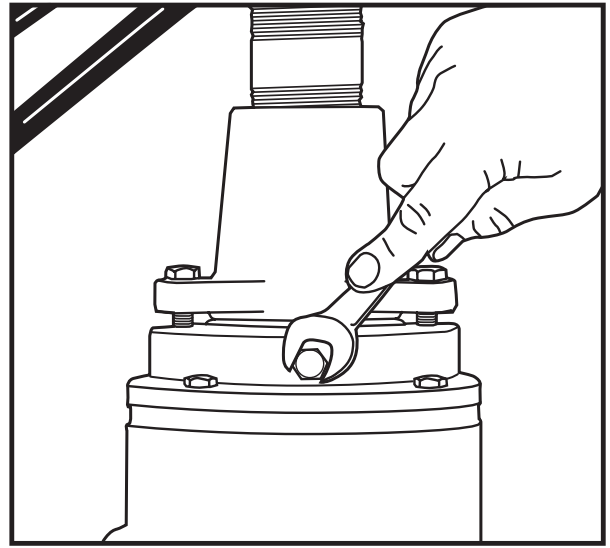

Fig. 29
1. Remove oil fill plugs slowly and drain oil from motor and seal chamber. See Figures 29, 30 and 31.